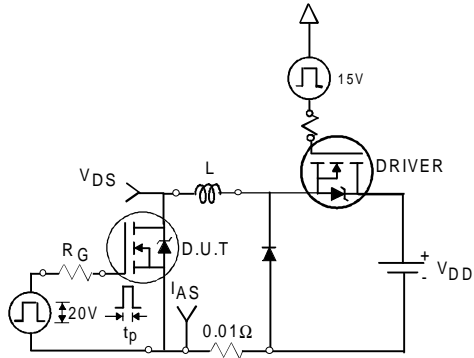

Fig 12a. Unclamped Inductive Test Circuit
- ③ $I_{SD} \leq 78A$, $di/dt \leq 320A/\mu s$, $V_{DD} \leq V_{(BR)DSS}$, $T_J \leq 175^\circ\text{C}$
- ④ Pulse width $\leq 400\mu s$; duty cycle $\leq 2\%$.
- ⑤ $C_{oss \text{ eff.}}$ is a fixed capacitance that gives the same charging time as C_{oss} while V_{DS} is rising from 0 to 80% V_{DSS} .
- ⑥ Calculated continuous current based on maximum allowable junction temperature. Package limitation current is 75A.
- ⑦ Limited by T_{Jmax} , see Fig.12a, 12b, 15, 16 for typical repetitive avalanche performance.
3. Equation below based on circuit and waveforms shown in Figures 12a, 12b.